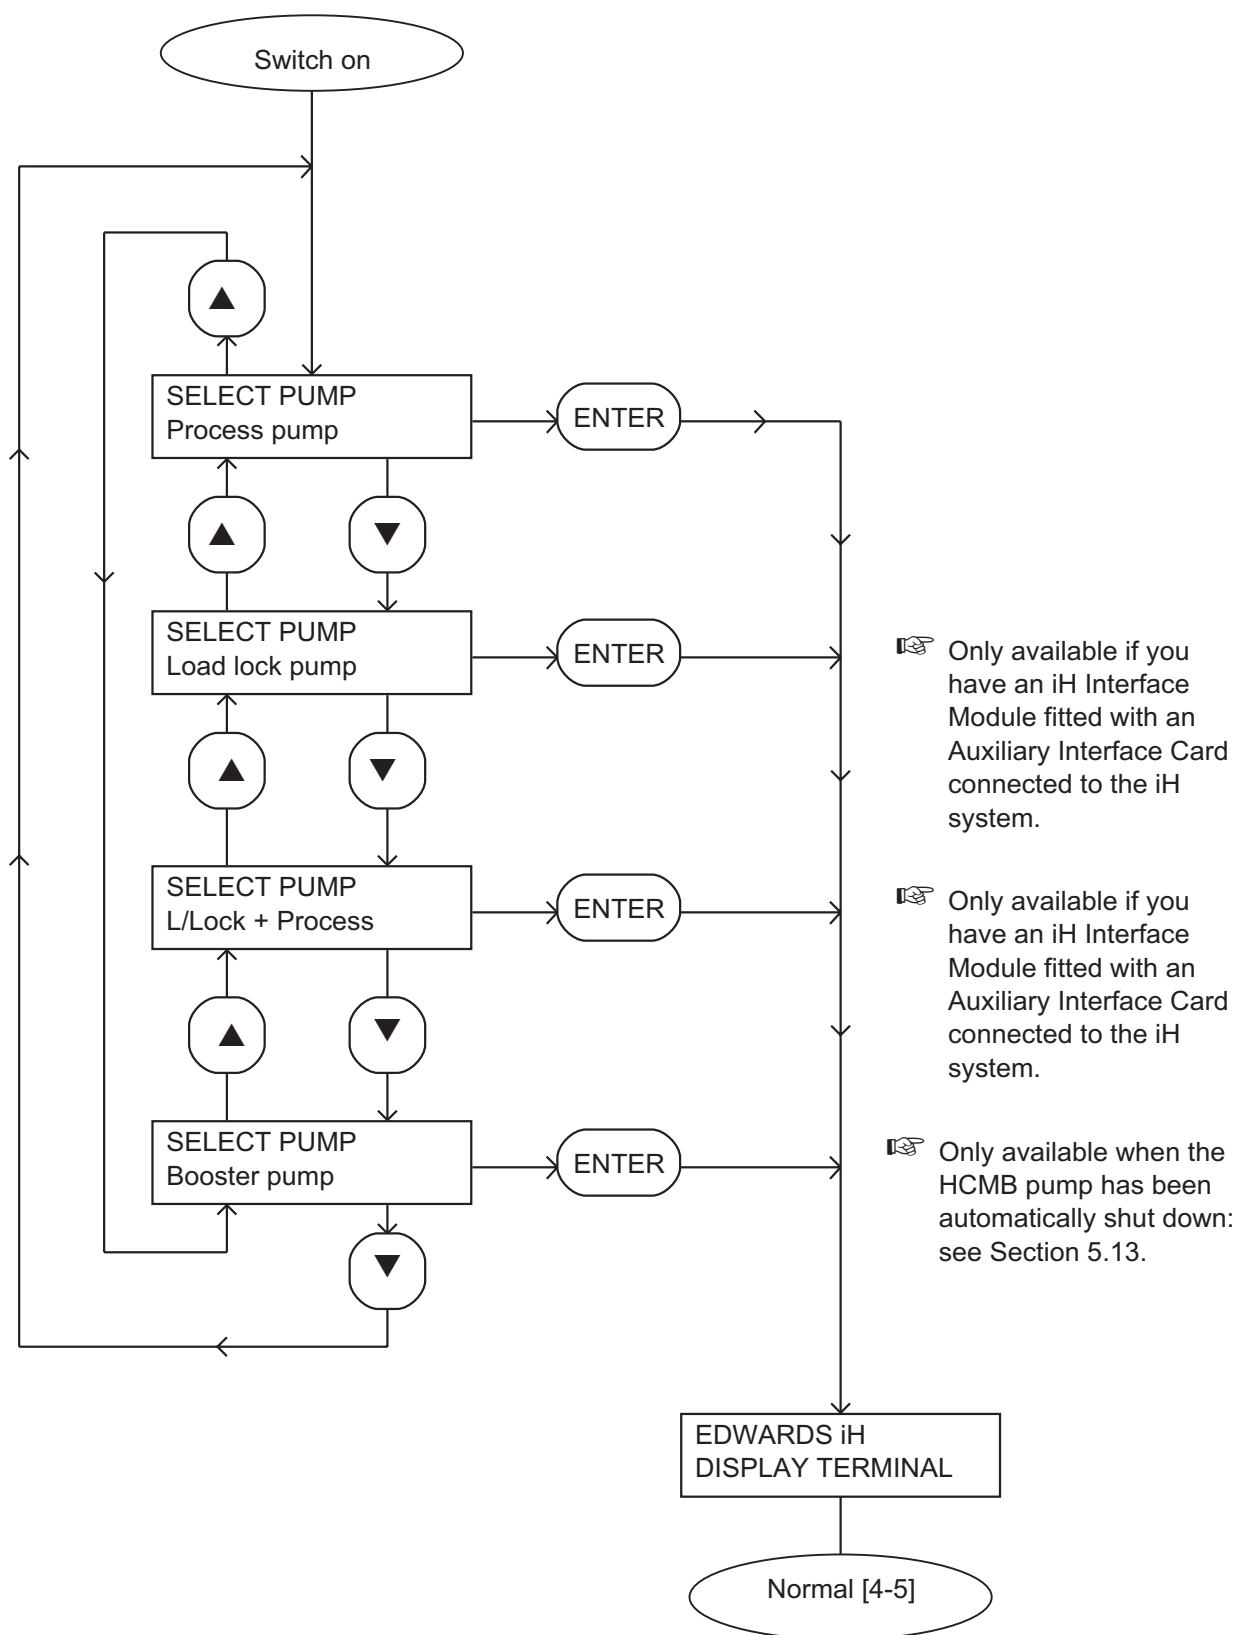

Figure 4-3 - Switch on menu
- In the Switch On and Switch Off menus (Figures 4-3 and 4-4), when you press CANCEL, the menu is exited and the normal display is shown.